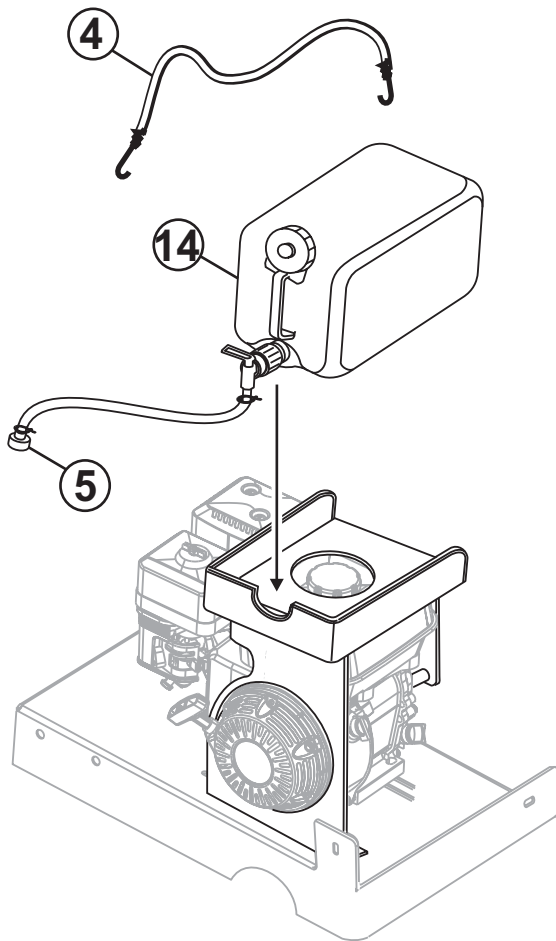

Figure 26. Water Tank Position
- 9 Place the Water Tank (with the hose assembled), onto the Tank Shelf so the valve and hose are resting in the notch of the top of the Tank Shelf. (Figure 26)
10. Place the Bungee Cord (item 4) over the Water Tank (item 14) so it securely holds the tank onto the Shelf.
11. Disconnect the existing water hose from the saw blade guard and connect instead, the new hose using the Swivel Connector. (item 5)